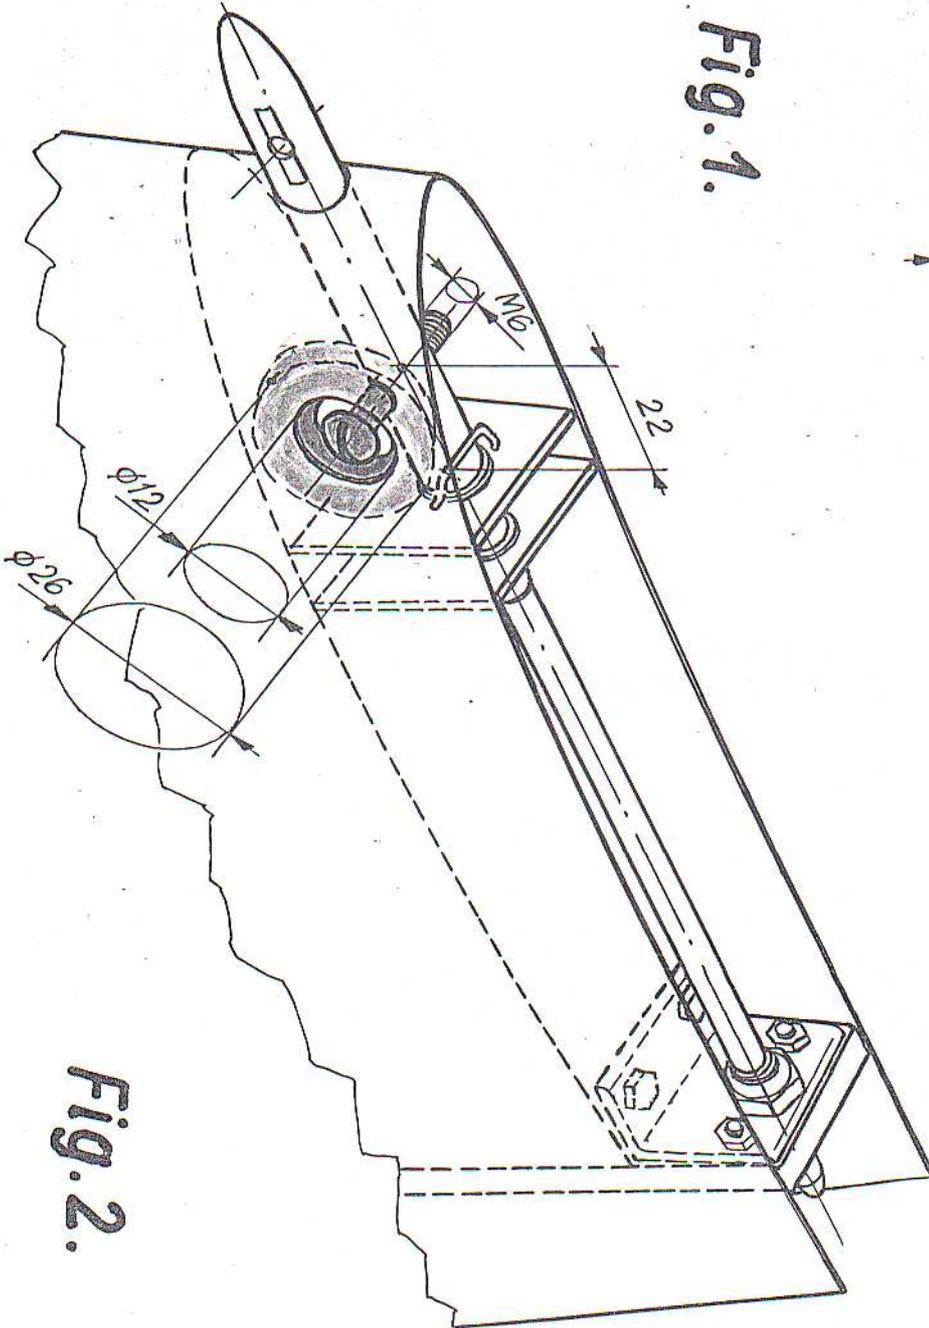

Fig.2.
It is screwed into the bolt pivot, as shown on the sketch of Fig. 2 so that its head touches the external lap.
5.1. On the pivot of connecting bolt (44-40-00) the opening of $\varnothing 4,8$ (for M6 thread) should be traced and drilled through on the distance of 22 mm from the stop surface (in respect to the front nest sleeve face - see Fig.2). The opening axis should be parallel to the cuts for the locking spring. Smooth the opening edges.